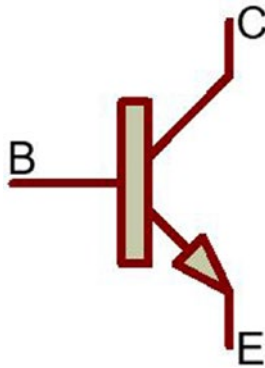

Figure 7-10. Base, collector, and emitter terminals of an NPN transistor
BJT transistors have three terminals: base (B), collector (C), and emitter (E). Figures 7-10 and 7-11 show the base, collector, and emitter terminals of NPN and PNP transistors, respectively. Usually metal case of the power transistors (Figures 7-5 and 7-6) is connected to the collector terminal.